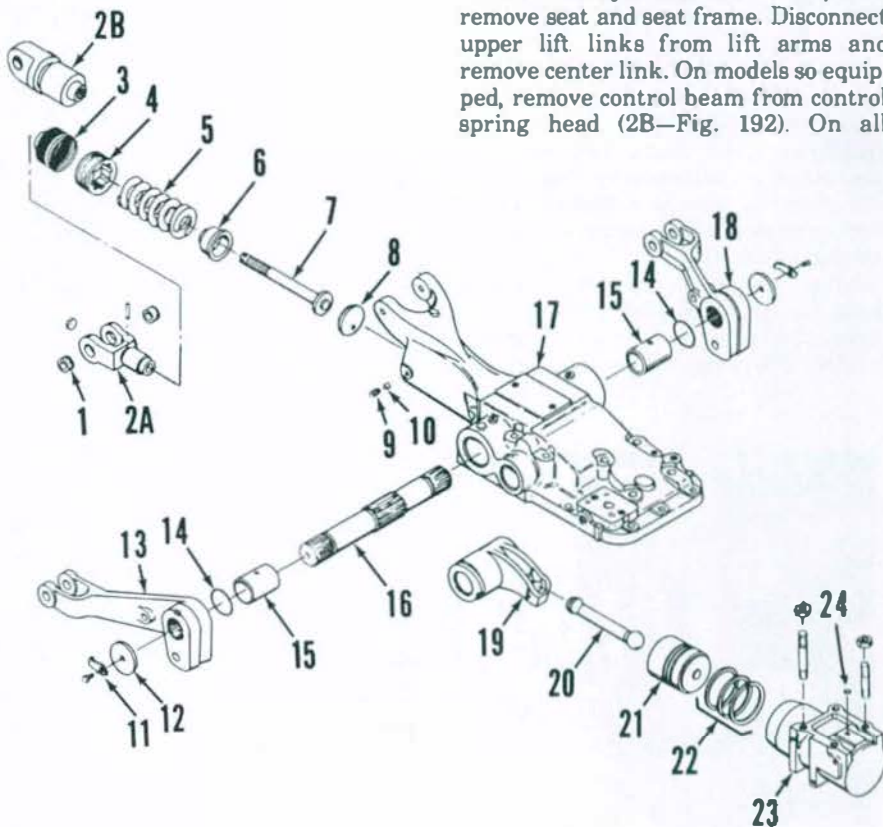

Fig. 192—Exploded view of hydraulic lift cover, master control spring, rockshaft, lift cylinder and associated parts.
207. REMOVE AND REINSTALL. To remove hydraulic lift cover, first remove seat and seat frame. Disconnect upper lift links from lift arms and remove center link. On models so equipped, remove control beam from control spring head (2B—Fig. 192). On all
208. OVERHAUL. To disassemble, first unscrew control spring adjusting nut (4—Fig. 192) and withdraw control spring assembly from lift cover. Remove dashpot assembly (53—Fig. 193). If equipped with pressure control, remove diaphragm (52), pressure control valve
To remove rockshaft (16—Fig. 192) and lift cylinder (23), first remove left-hand lift arm (18). Slide shaft with right-hand arm out right side of lift cover. Remove bushings (15) and "O" rings (14). Remove rockshaft arm (19) with rod (20) from lift cover. Remove stud nuts securing lift cylinder and remove cylinder from lift housing. Remove piston from cylinder.
Check and adjust master control spring (5—Fig. 192) as outlined in paragraph 194. Make sure draft control rod does not contact spring plunger when adjusting master control spring. Move draft control lever to fully lowered position on quadrant and, if necessary, place a wedge between lift cover casting and draft control rod adjusting screw.